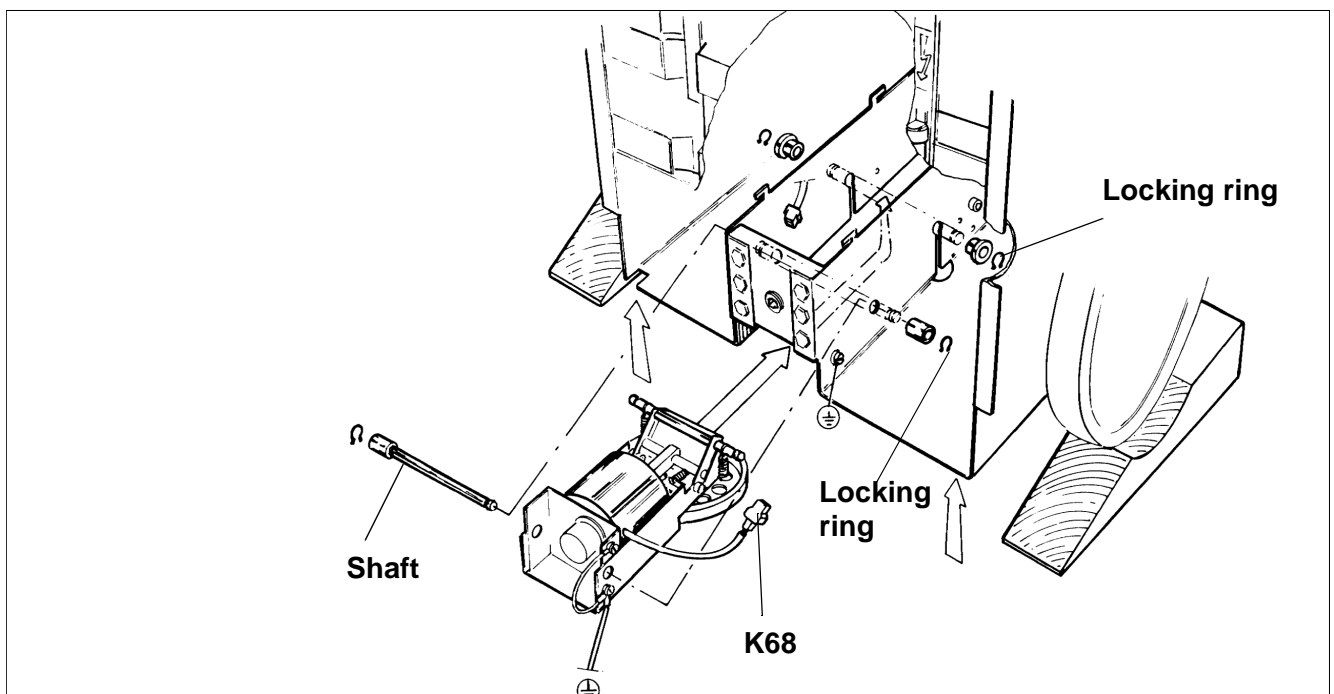

Fig. 13
- Disconnect all cables, ground connection and K68, according to (Fig. 13).